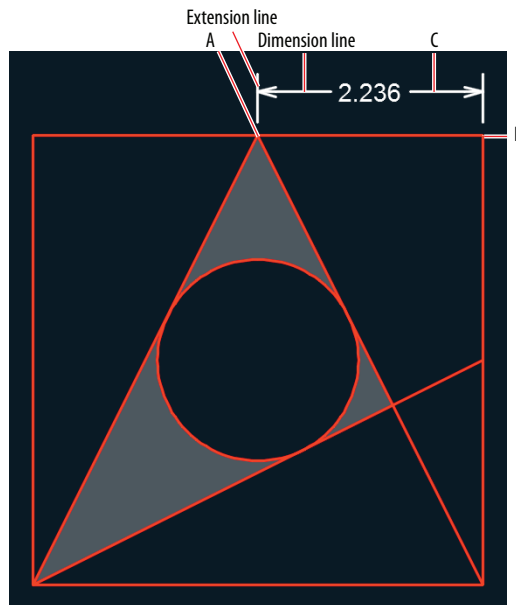

FIGURE 11.12 Creating a linear dimension by clicking three points
2. Click the Linear dimension tool on the Annotation panel. Click points A and B to specify the first and second extension line origin points, as shown in Figure 11.12. Click point C to specify the dimension line location.